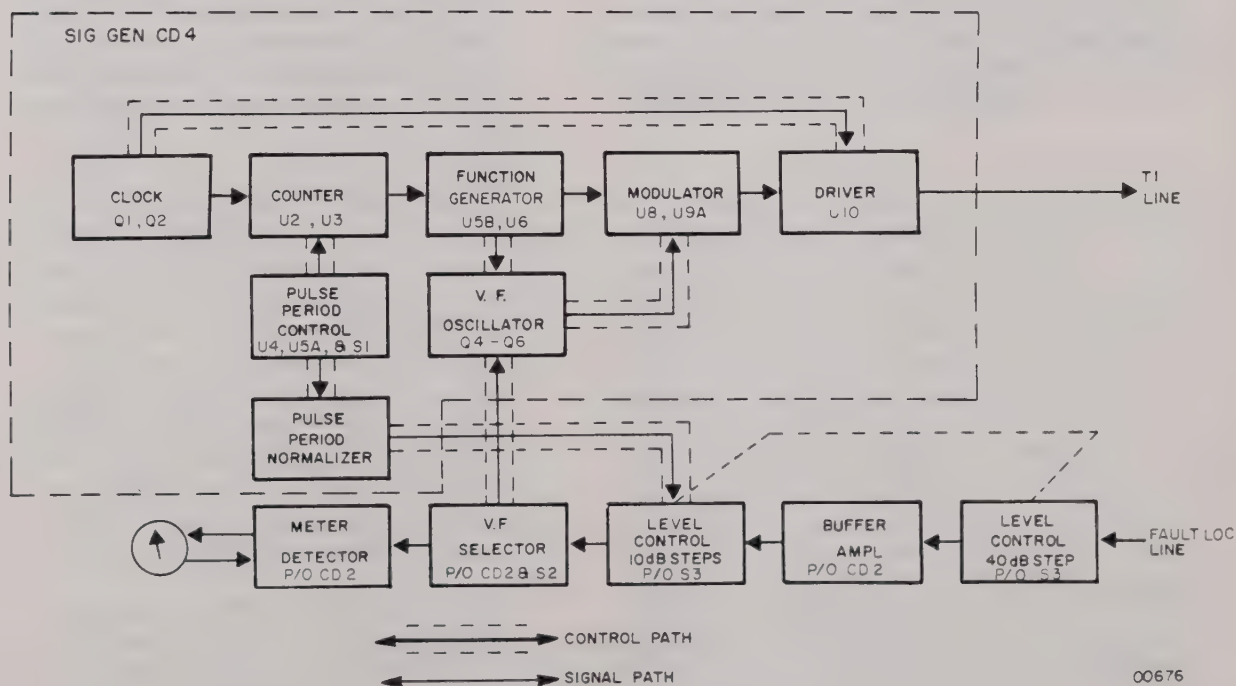

Figure 4-1. Model 7001 Block Diagram
4.1 GENERAL DESCRIPTION: The major functions performed by the T1 Fault Locator are indicated in the block diagram of figure 4-1.